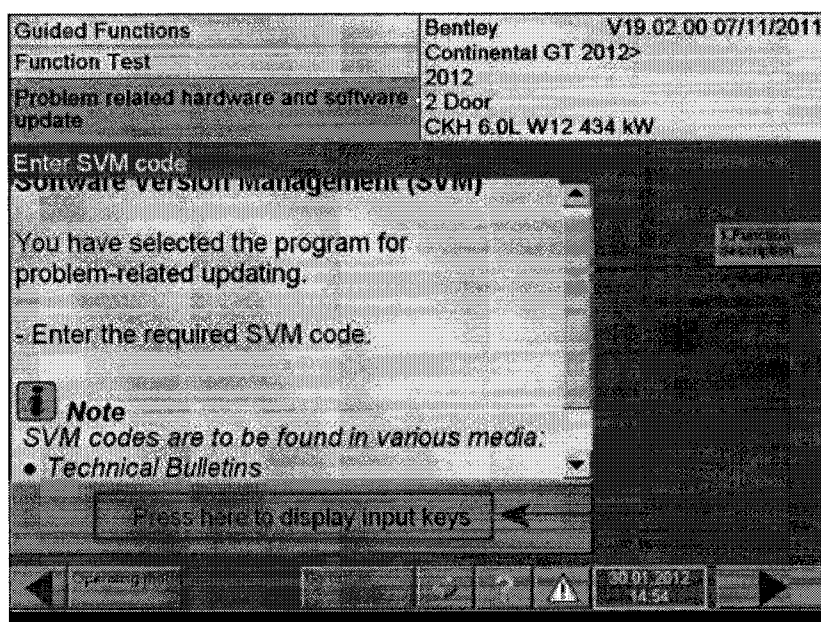

Figure 15
15. Display the virtual key board (Press here to display input keys) (see Figure 15)